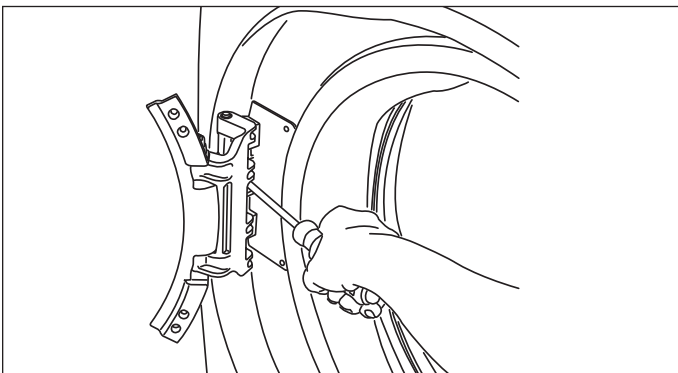

Figure 2-22.
2. Remove 3 short, fine-thread, counter-sunk screws in hinge side. (See Figure 2-22)